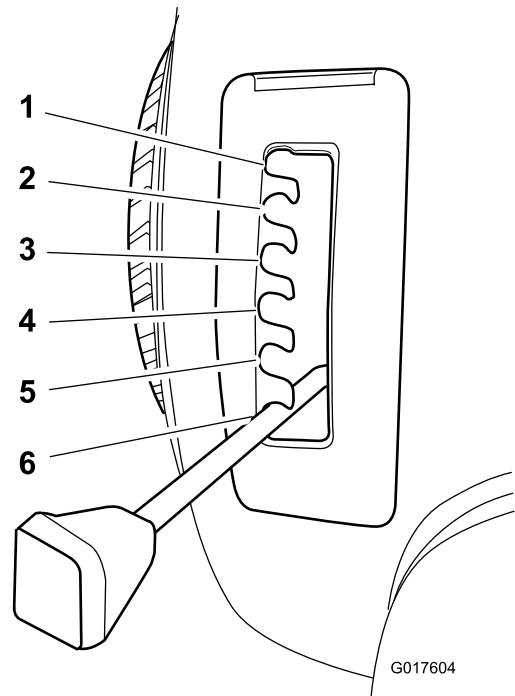

Figure 9
4. Pull on the height-of-cut lever on the machine and move it to the desired position (Figure 9).